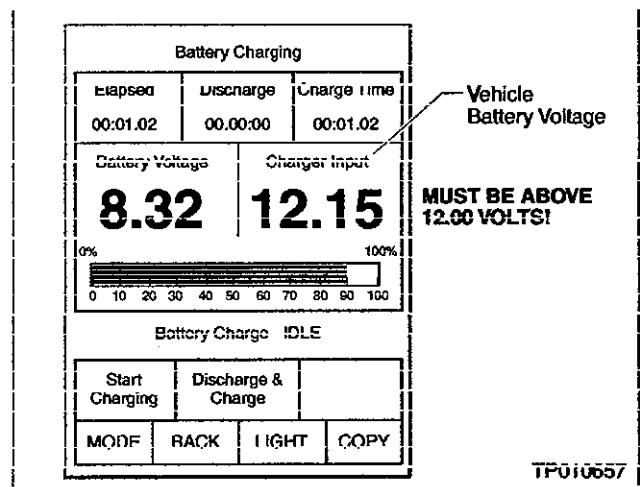

Figure C2
5. Check the vehicle's battery voltage reading on the CONSULT-II screen (see Figure C2).